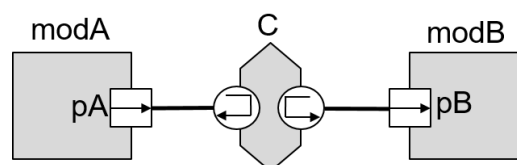

Fig. 1
4. (5%) Fig. 1 shows that the two modules are connected with a channel. Please determine the wrong declaration(s) and provide your reason.